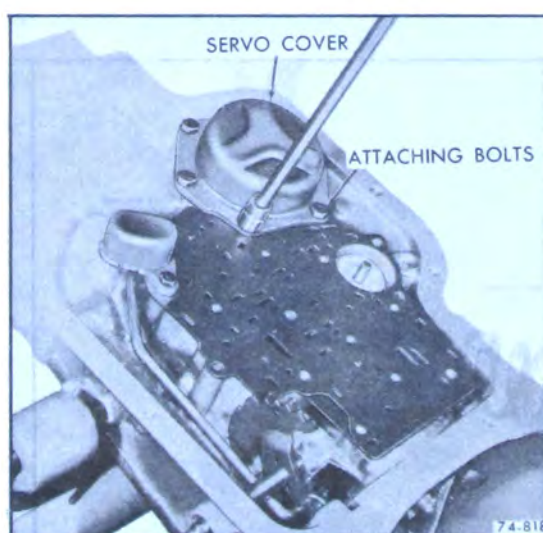

Figure 74-780
4. Install attaching bolts. Torque bolts to 15-20 lb. ft. See Figure 74-780.